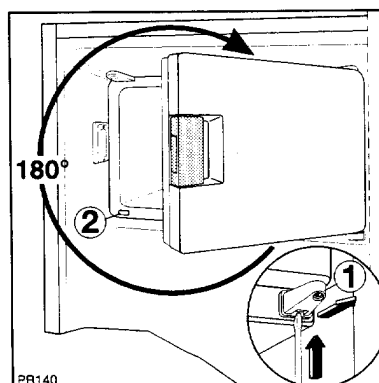

Fig. 8
Using a screwdriver release bracket (1) by pressing on the internal spring (Fig. 8) and withdraw it from its seat together with the door;